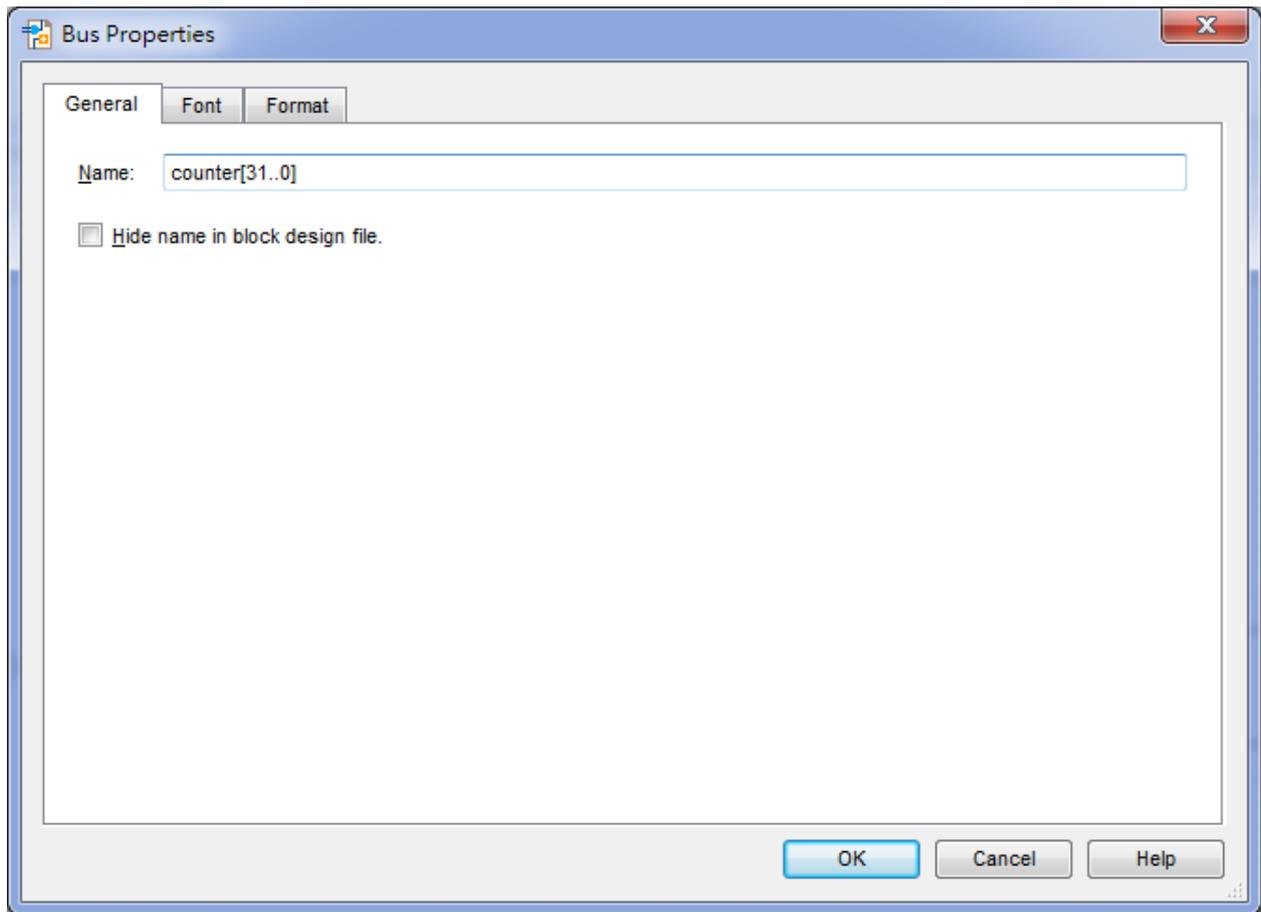

Figure 3-20 Change the output BUS name
- j. Type counter [31..0] as the bus name (see Figure 3-20). The notation [X..Y] is the Quartus II method for specifying the bus width in BDF schematics, where X is the most significant bit (MSB) and Y is the least significant bit (LSB).